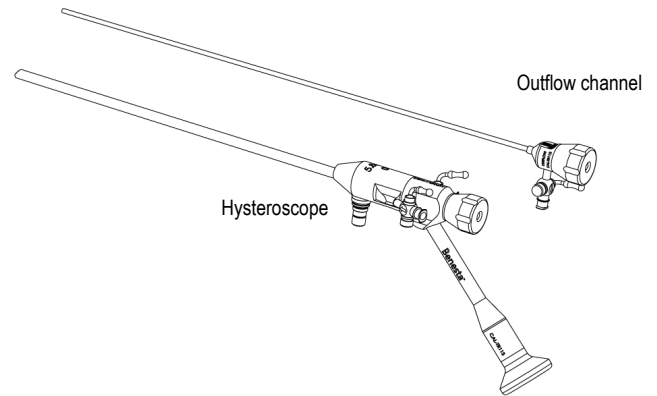
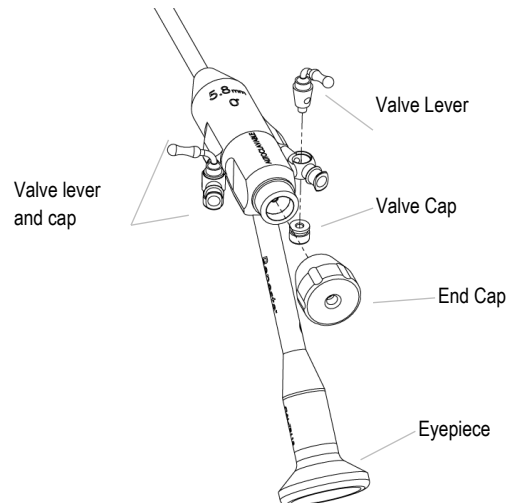

Figure 1. Benesta® Hysteroscope and removable Outflow Channel
Figure 2. Benesta® Hysteroscope components
- The reusable Benesta® Hysteroscope utilizes rod lenses for visualization and fibers for illumination. The Benesta® Hysteroscope includes a working channel designed to accommodate the respective Benesta® Tissue Removal Device. (See Figure 1). The components of the Benesta® Hysteroscope Set are listed in Table 1 and the hysteroscope components are shown in Figure 2.